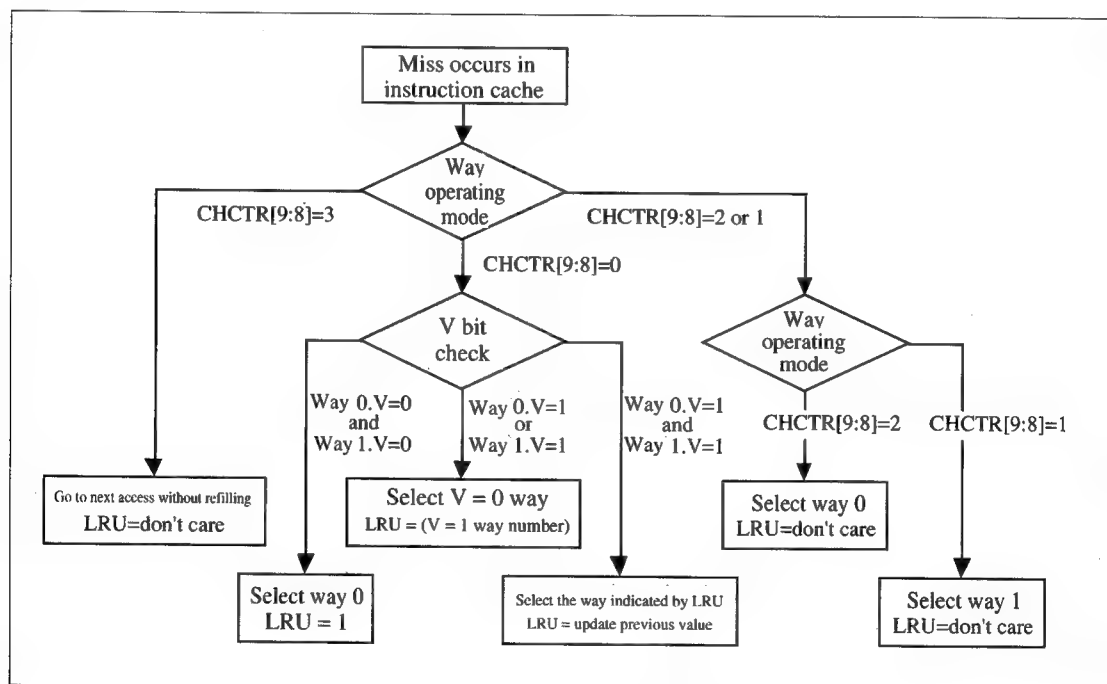

Fig. 4-5-2 Instruction Cache Refill Target Way Selection Flow
First, the refill target way is selected according to the value of the valid bit (V) in the tag array entry that was accessed, the LRU data stored in the LRU field, and the way operation mode that is set in the cache control register (CHCTR). Fig. 4-5-2 shows the flow by which the instruction cache refill target way is selected.